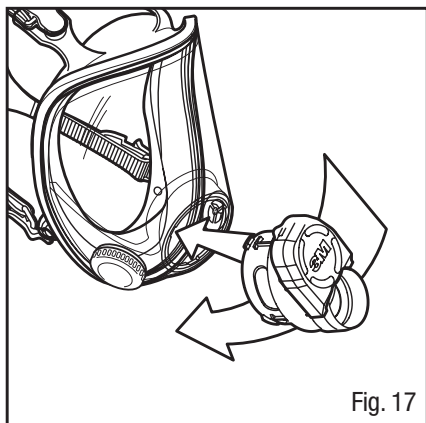

Fig. 17
3. Slide adapter into lens port (Fig. 17).